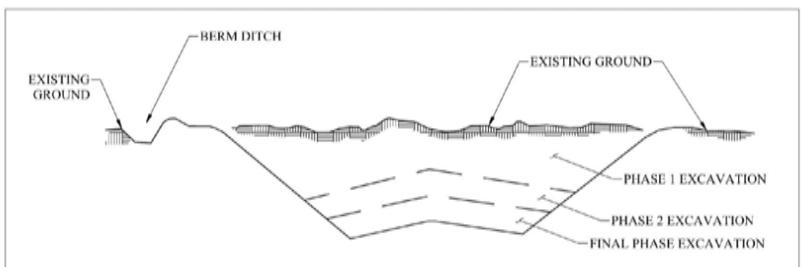

Figure 2.1 Incremental stabilization – cut.
- The construction sequence is as follows (refer to Figure 2.1):